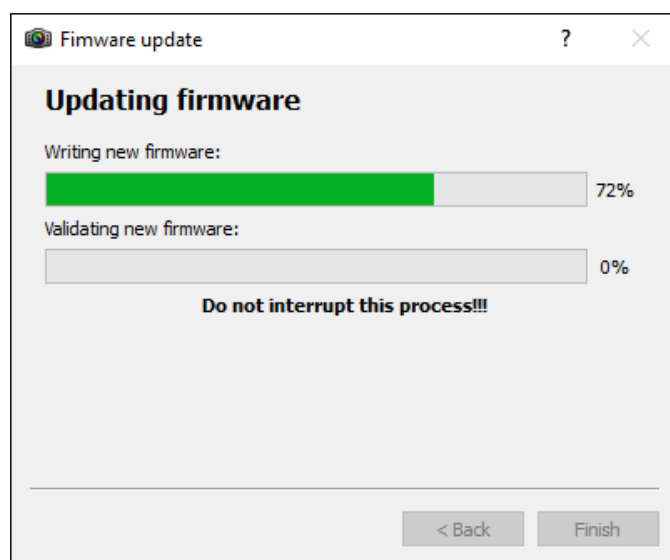

Figure 31 – Firmware Update process window
5. The following window displays the initiated firmware update. The firmware update process is displayed in the first progress bar, and the firmware validation is displayed in the second, as shown in Figure 31